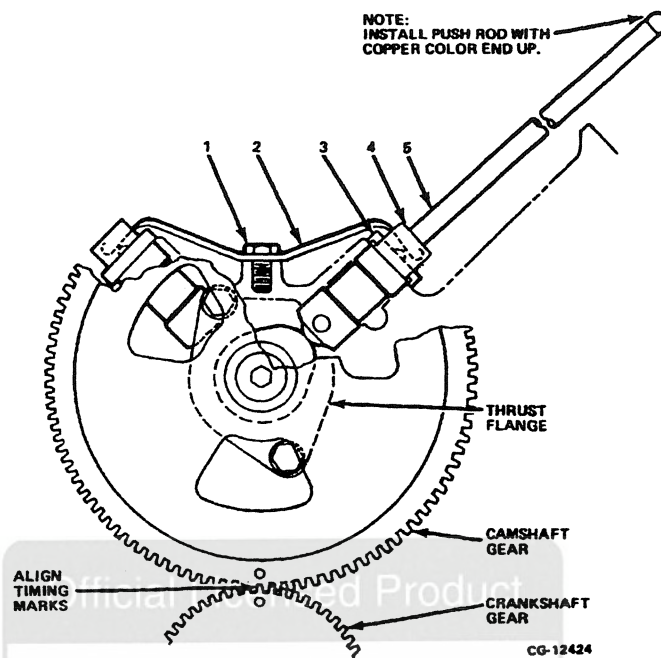

Figure 4.23. Valve Train – Assembled View
1. Install hydraulic valve lifters (4, Figure 4.23) in their respective bores in the cylinder block.
2. Install valve lifter guides (3, Figure 4.23) over the hydraulic valve lifters.
3. Install guide retainer (2, Figure 4.23) and fasten the 3 guide retainer bolts and washers (1, Figure 4.23).
4. Insert the valve push rods (5, Figure 4.23) in their respective positions. Install with copper color end up, to assure the "hard" end of the push rod mates with the valve lever.